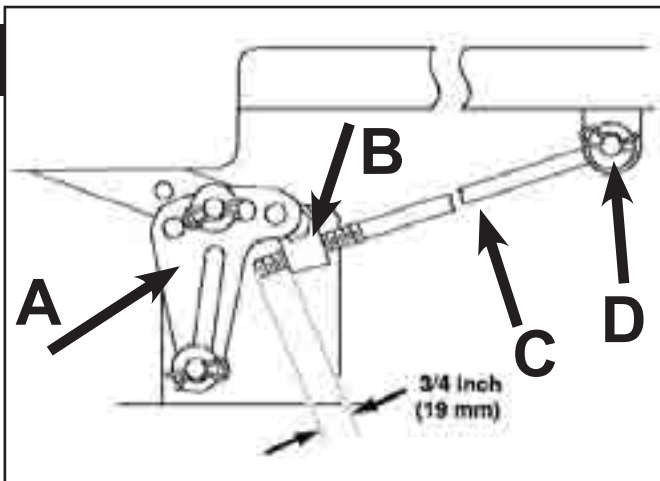

Fig A6 003 fig. 43 G001850
5. Measure the length of the rod extending out of the adjusting block on the sides of the chassis (Fig. A6 003).